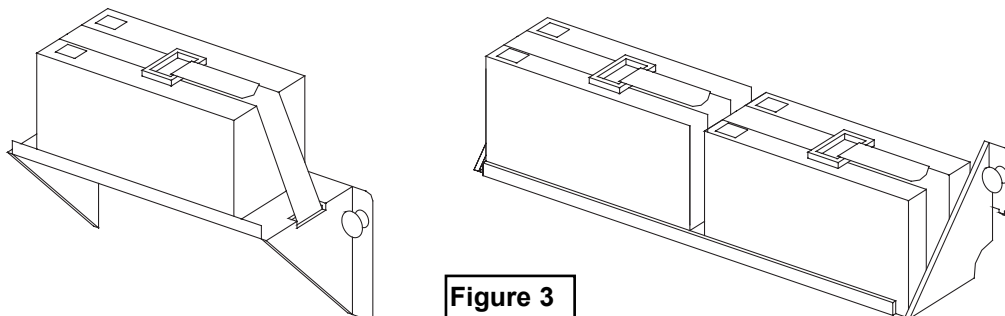

Figure 3
- B. Mounting Backup Battery - *ref. to Figure 3*